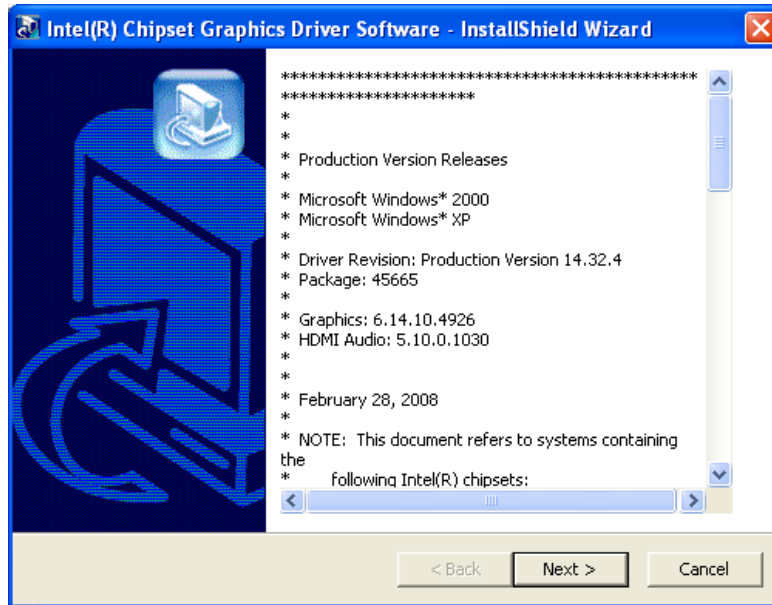

Figure 5-7: Graphics Driver Read Me File
Step 4: The **Read Me** file in **Figure 5-7** appears.